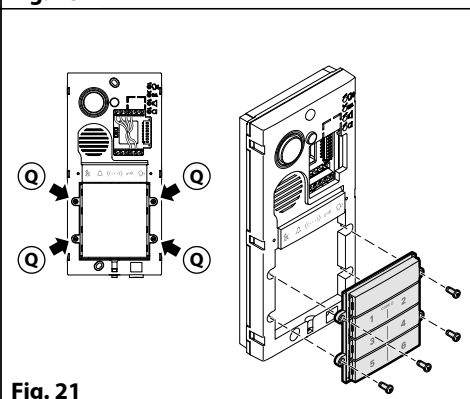

Fig. 21
3. **For the codelock configuration:** remove the four screws (Q) and replace the whole nameplate frame with the codelock frame provided. Make the appropriate dip-switch settings (Fig. 21).